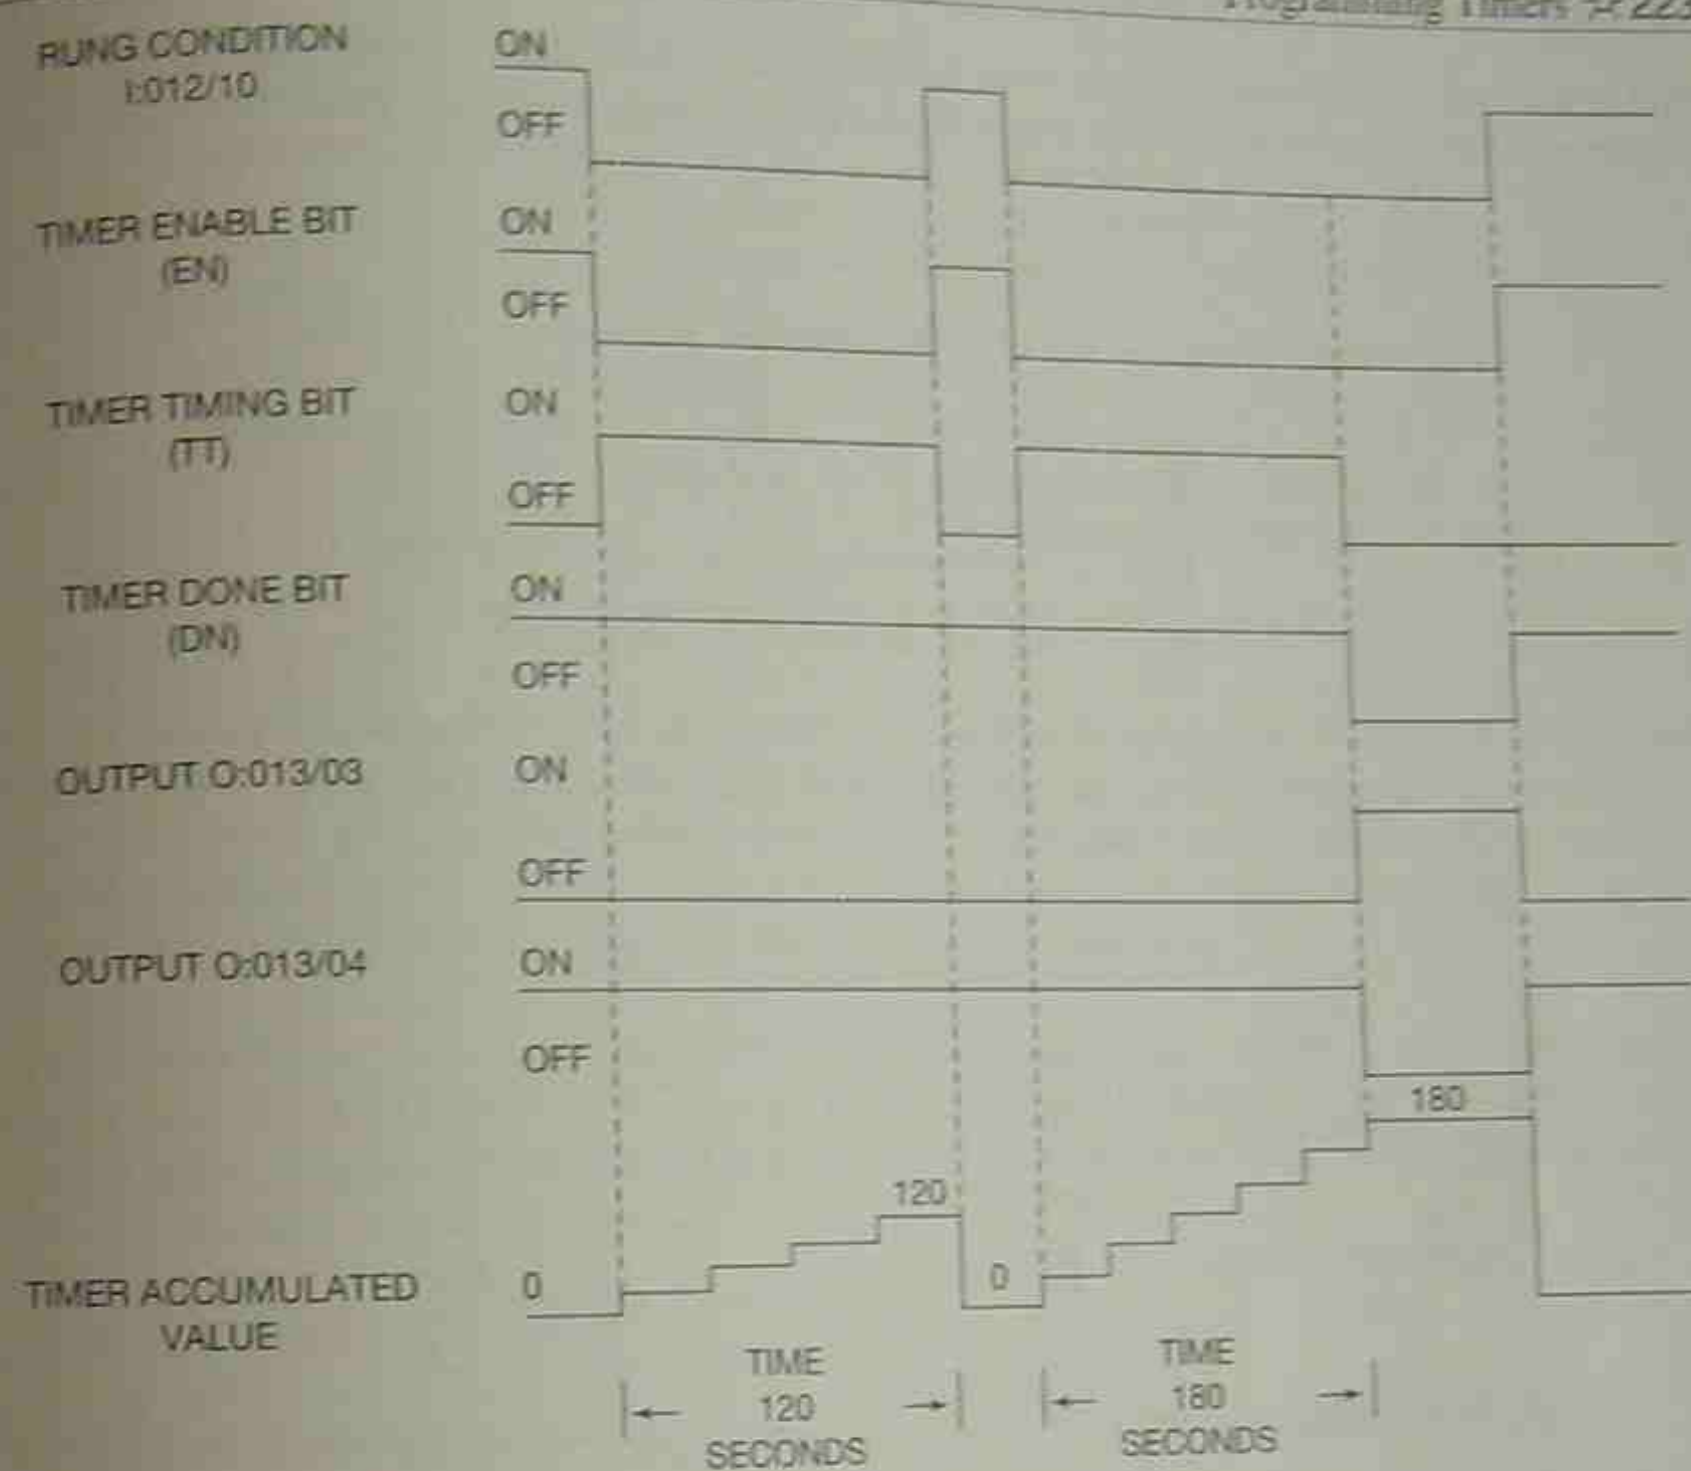

Figure 12-21 Timing Chart for a TOF Timer
In an OFF delay timer, when bit I:012/10 is set to 1, the DN and EN bits are also set to 1. The DN bit acts like the OFF delay contacts of a pneumatic timer, and the EXAMINE OFF (N.C.) instruction in Rung 4 goes false, or open, while the EXAMINE ON instruction (N.O.) in Rung 5 goes true. When input device I:012/10 is reset, or set to 0, Rung 1 goes false, and the timer starts to accumulate time in one-second intervals as long as the Rung remains false. When the accumulated value equals the preset value (180) the timer stops. T4:1.TT was set to 1 while the timer was timing and output O:013/02 in Rung 3 was ON. When the accumulated value equaled the preset value and the timer stopped timing, the TT bit was reset to 0 and output O:013/02 was turned OFF. When the TT bit is reset to 0, the DN bit (bit 13) is also set to 0, and output O:013/03 in Rung 4 is turned ON and output O:013/04 in Rung 5 is turned OFF. The TOF instruction is reset by each open-to-closed transition of input device I:012/10. Figure 12-21 shows a typical timing chart for an OFF delay timer.